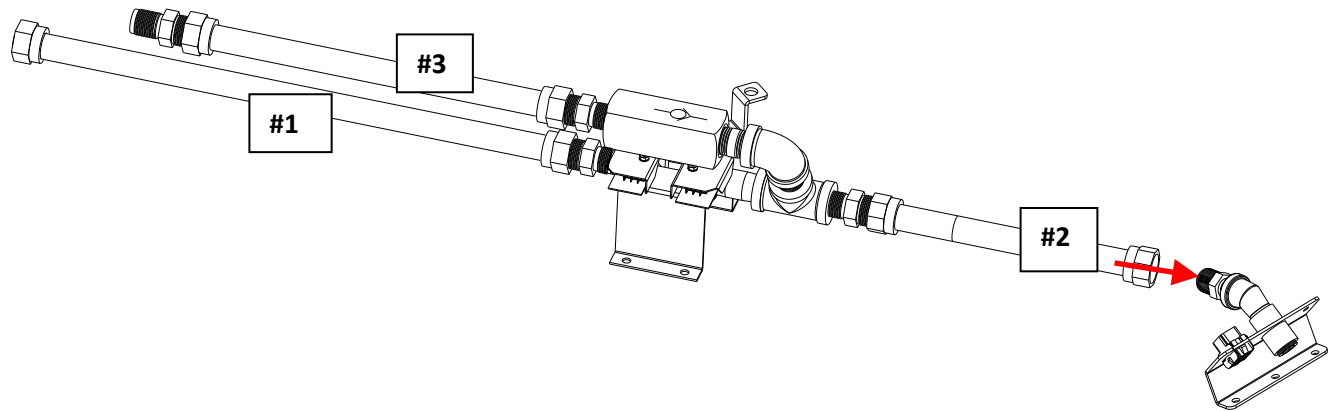
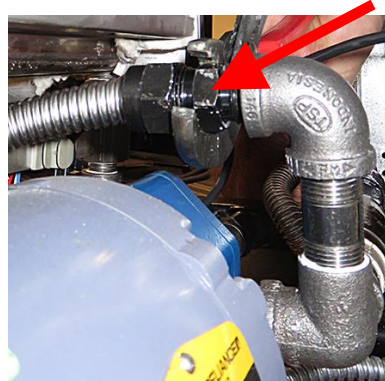
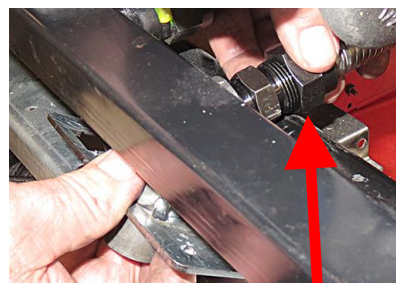

Figure 32
Figure 33
Figure 37
35. Using Figure 32 below as a guide, route the flexline #1 around the switch assembly and up over flexline #2 and attach to the outlet of the filter pump (see Figure 33).
41. Attach the flexline #2 from the dispose switch assembly in Figure 32, to the dispose outlet assembly (see Figure 37).
65. Attach the #3 flexline (see Figure 32) from the check valve on the dispose assembly, to the flexline connector, attached to the drain tube in step 62 (see Figure 56).